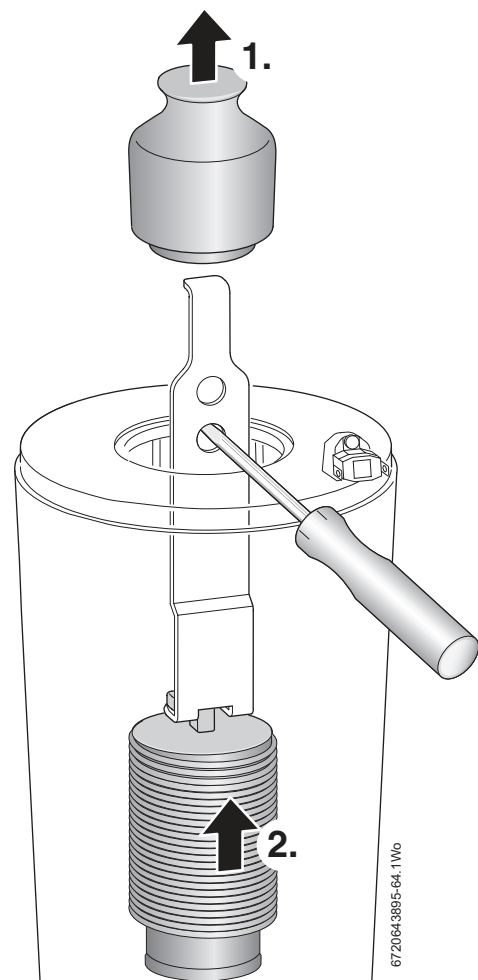

Fig. 68 Baffle removal
Refer to figure 68.
If the lower baffle is stuck, it may be necessary to use the “Baffle removal tool” from the heat exchanger cleaning kit - 7 716 192 312, as shown in figure 68.
The baffles (1) and (2) must be refitted into the heat exchanger in the order shown in figure 68. Failure to do so may result in damage to the boiler.